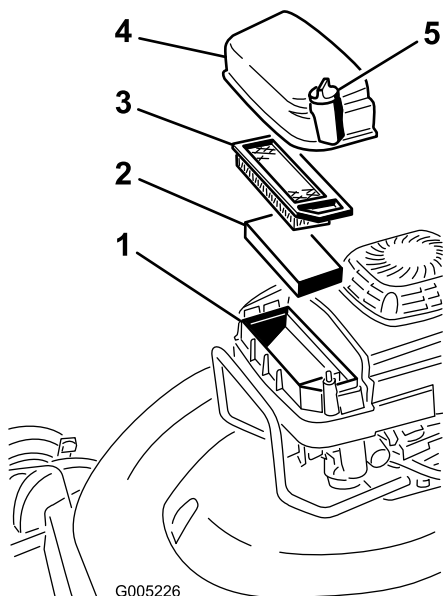

Figure 21
3. Remove the screw that secures the air cleaner cover (Figure 21).
4. Remove the cover and clean it thoroughly (Figure 21).
5. Remove the paper air filter and discard it (Figure 21).